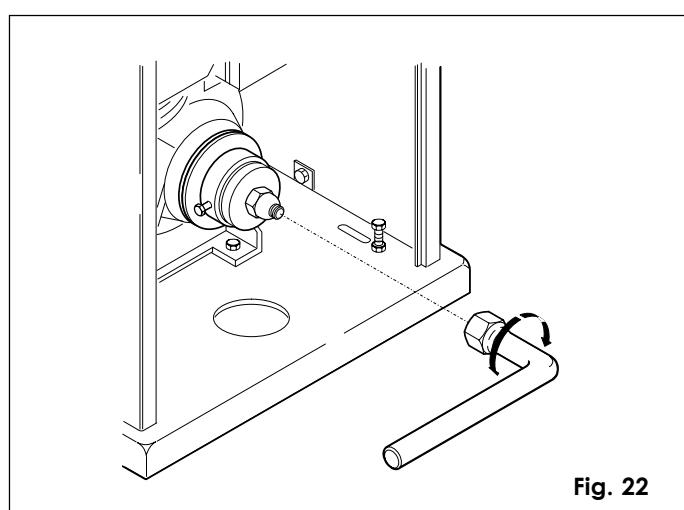

Fig. 22
- Using the key provided, undo the self-locking nut until the clutch is released as shown in fig. 22.